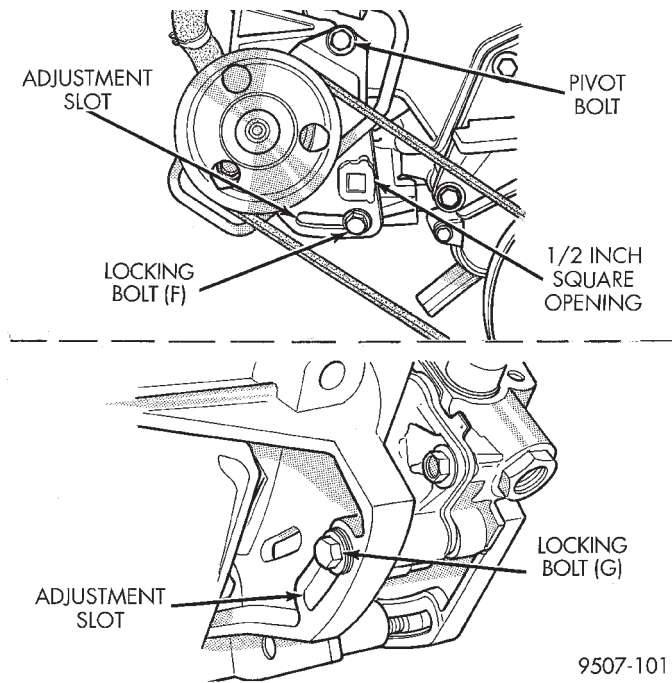

Fig. 39 Power Steering Belt Adjustment
- (1) From the top of the vehicle loosen pivot bolt (Fig. 39).
- (2) From under the vehicle loosen the locking bolts F and G (Fig. 39).
- (3) Install the belt. Adjust belt tension with 1/2 in. breaker bar installed in adjusting bracket (Fig. 39). See tension specification in chart (Fig. 40).
- (4) Tighten locking bolt G to 28 N·m (250 in. lbs.) (Fig. 39).
- (5) Tighten locking bolt F and the pivot bolt to 54 N·m (40 ft. lbs.).